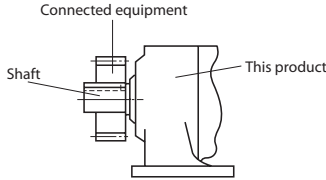

Figure 5-3
- The working load point of the sprocket or gear should go from the center of the shaft to this product. (See Figure 5-3)